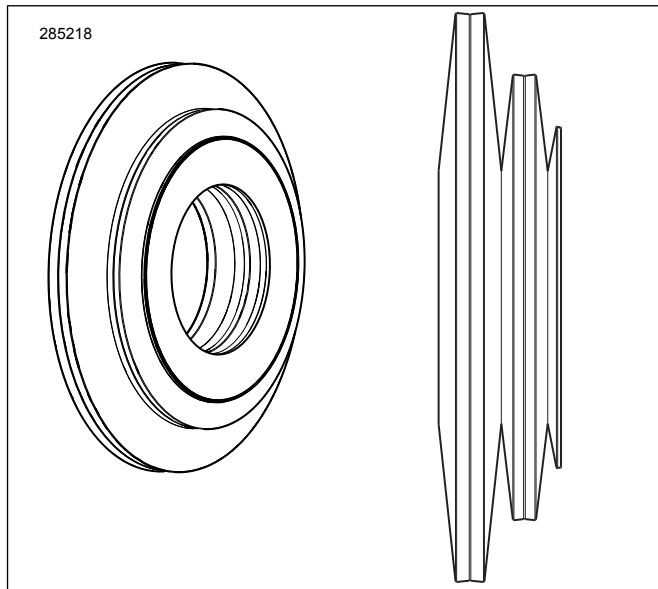

Figure 6. Spring Pack Sub-Assembly
11. See Figure 6. Outer diameters of springs must contact each other as shown.